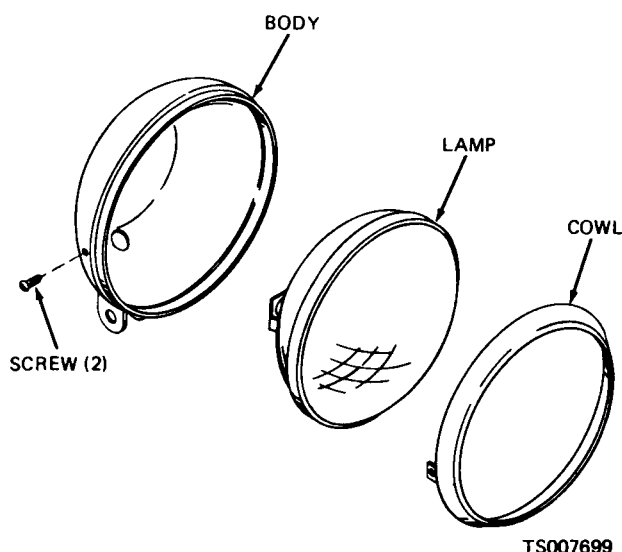

Figure 4-26. Headlight, Disassembly and Reassembly
(1) To replace the headlight lamp, remove the two screws (fig. 4-26) that secure the cowl to the
(1) Remove and disassemble the headlight as shown in figure 4-26.
(1) Reassemble and install the headlight as shown in figure 4-26.